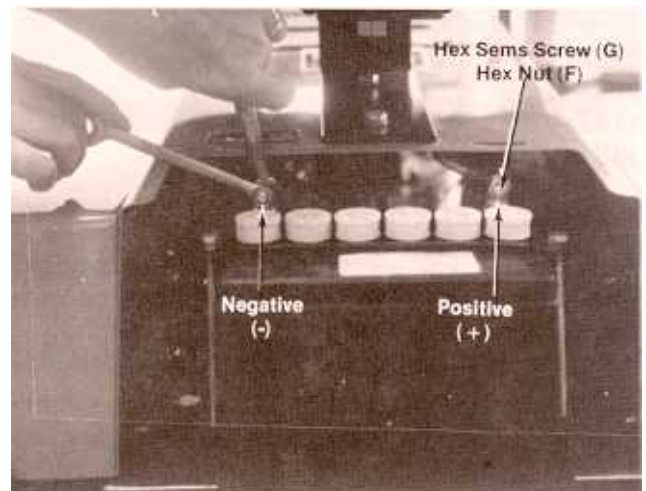

FIGURE 8.
4. Attach the positive cable (right hand side of rider) to the positive battery terminal with hex sems screw (G) and hex nut (F). See figure 8.
5. Attach the negative cable, grounded, to the negative battery terminal with hex sems screw (G) and hex nut (F). See figure 8.